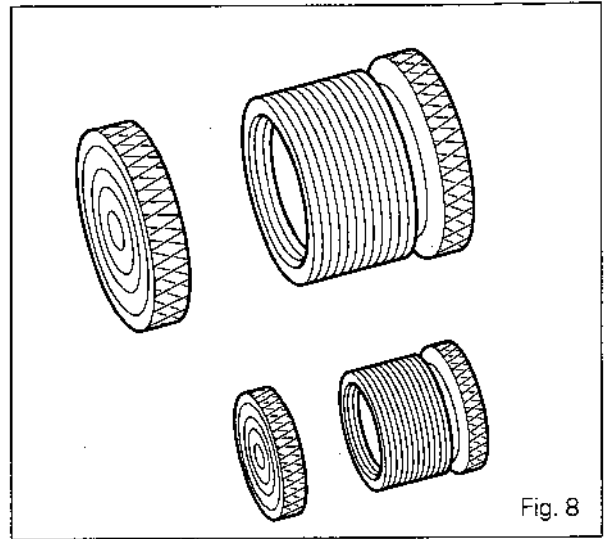

Fig. 8
- 3376935M91 - Set of plugs for air conditioning couplings (Fig. 8)